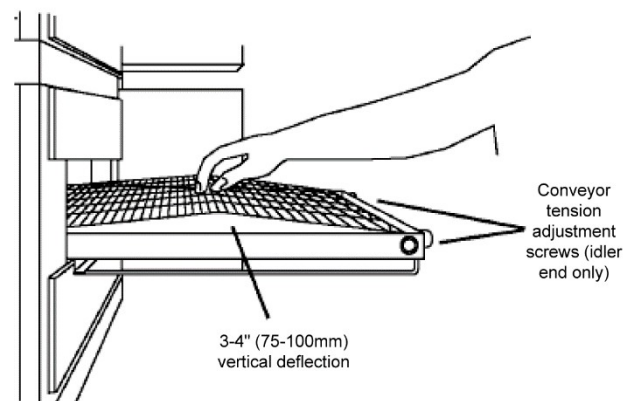

Figure 26. Conveyor Belt Tension
4. Check the tension of the conveyor belt as shown in Figure 26. The belt should lift about 1" (25mm) **DO NOT OVER TIGHTEN THE CONVEYOR BELT.**
NOTE: If necessary, the belt tension can be adjusted by turning the conveyor adjustment screws, located at the idler (non-control) end of the conveyor. See Figure 26.